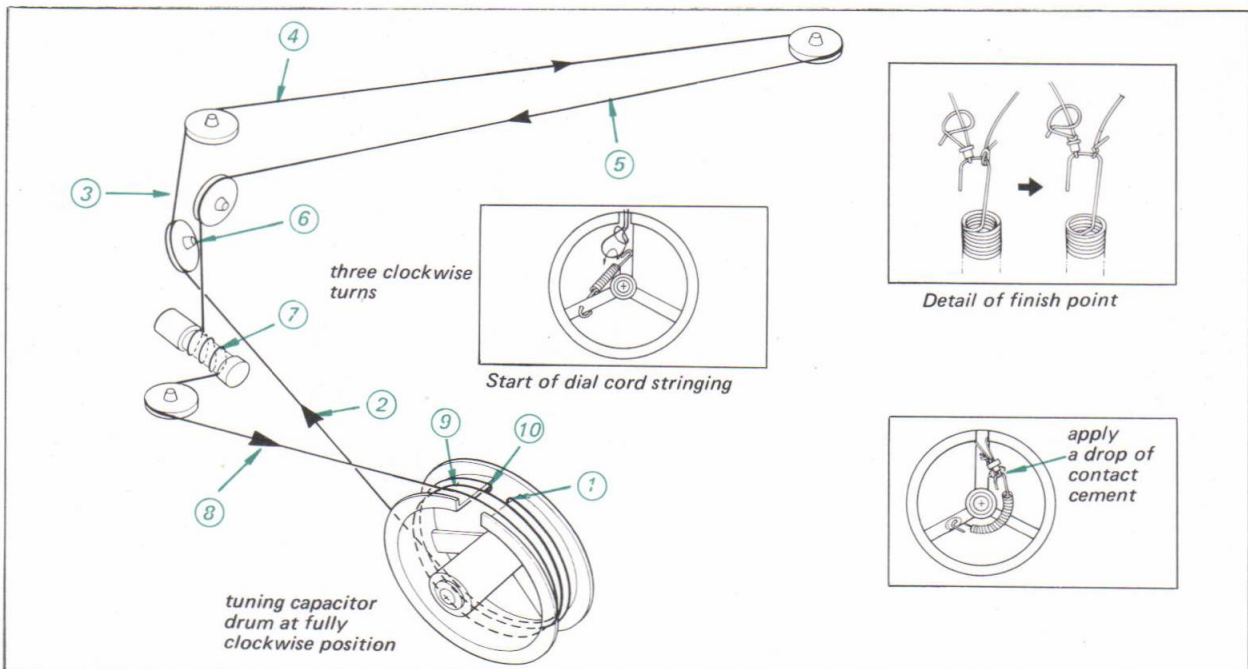

Fig 2-5. Dial cord stringing
2. Tie the end of the cord to a spring as shown in Fig. 2-5.
1. Referring to Fig. 2-5, proceed the stringing in numerical order as shown.